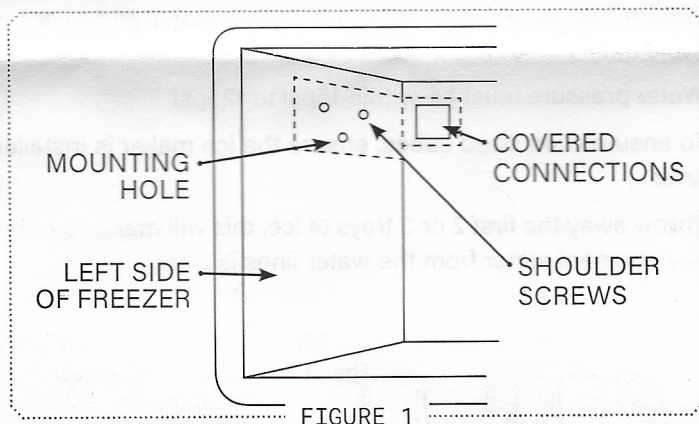

FIGURE 1
1. Begin by peeling off the label or covering from the ice maker hole in the rear of the freezer compartment. Remove any foam or blockage in the hole with needle nose pliers. Retain any removed material until installation is complete. See Figure 1.